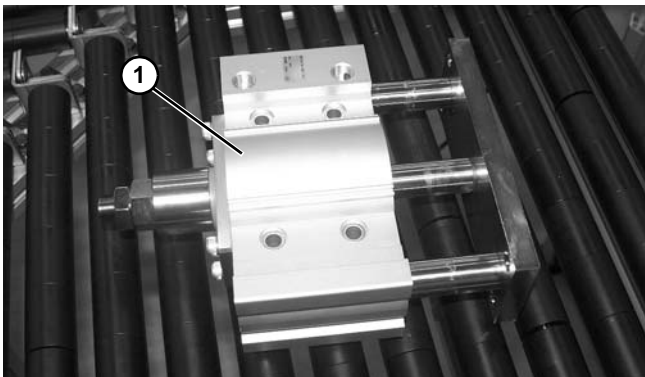

Figure 86
7. Remove cylinder (**Figure 86, item 1**) from conveyor frame.